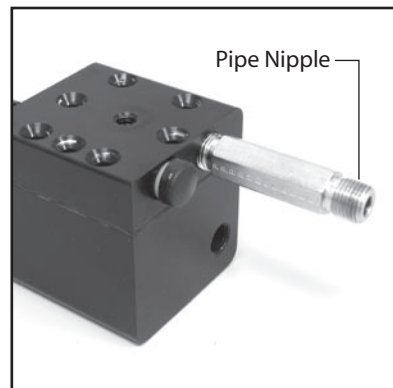

Figure 3
- 4 Install a 7.5 cm (3 inch) or longer 1/8" NPT pipe nipple into the fitting adjacent to the shuttle valve. Carefully remove the cover plate off by lifting up on the nipple (**figure 3**). You may use a screwdriver instead, levered between the shuttle valve and the jaws of the vise.